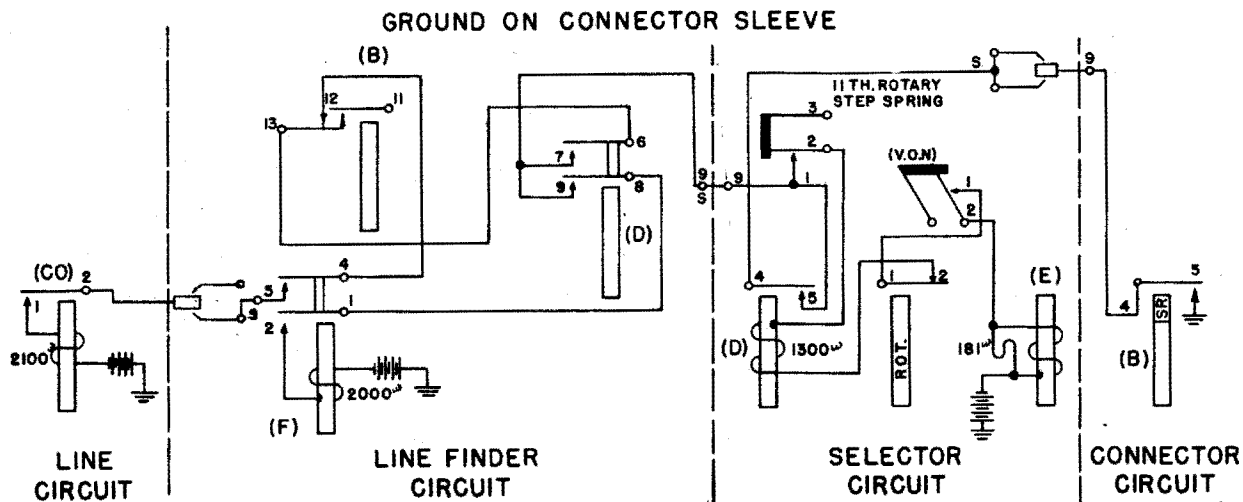
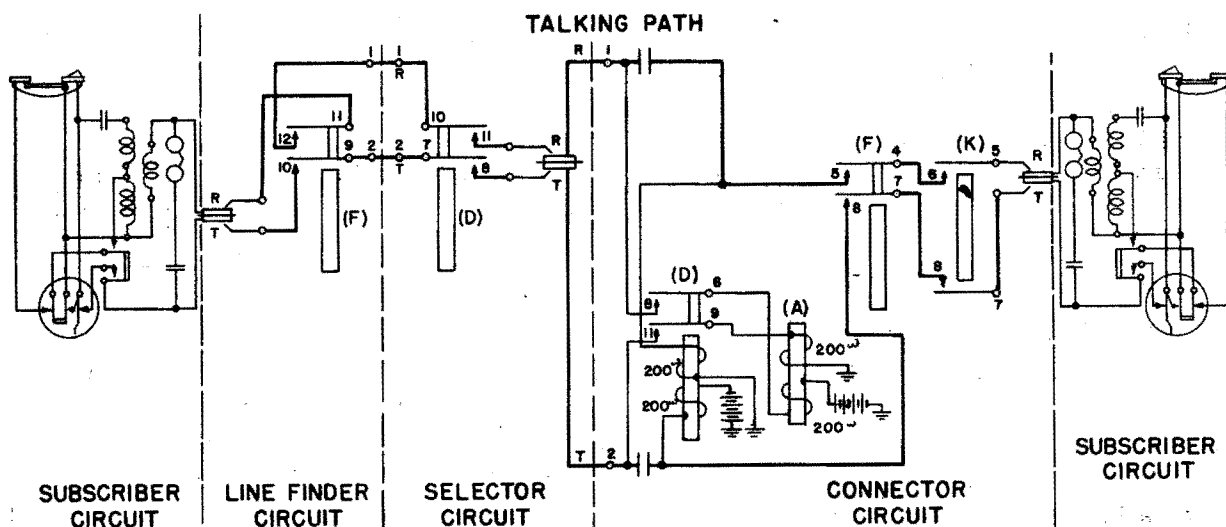

FIG. 9
FIG. 10
The ground to hold up the selector, line finder and line circuit (Fig. 9) comes from the 5-4 contacts of the (B) relay in the connector, over the sleeve (S) terminal of the selector bank, 4-5 contacts of (D) relay in the selector to contacts 1 of the 11th rotary step springs. At this point the circuit divides with ground going out over the sleeve (S) terminal (9) of the switch jack to hold up the (F) line finder and (CO) line circuit relays and a second circuit carrying ground through the 1-2 contacts of the 11th rotary step springs, 1300 ohm winding of the (D) relay, 2-1 contacts of the rotary interrupter (ROT) springs, 1-2 contacts of the vertical off normal (VON) springs then through the inductive and non-inductive 181 ohm windings of the (E) relay in parallel to battery.
During the time the subscribers are talking the (D) relay remains operated from the ground on the sleeve (S) lead from the connector (B) relay. (Fig. 9) The talking battery to the calling subscriber is supplied from the (A) relay in the connector and to the called subscriber from the (D) relay in the connector. (Fig. 10).